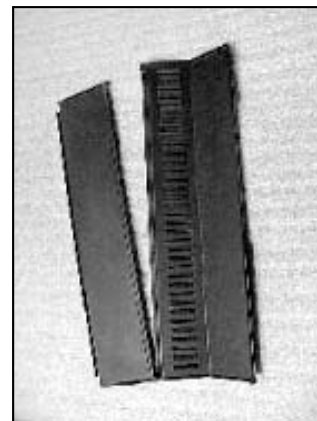

Figure 22.3
2. Set the large hole at bottom of side curtain over screw installed in **Figure 22.3**.